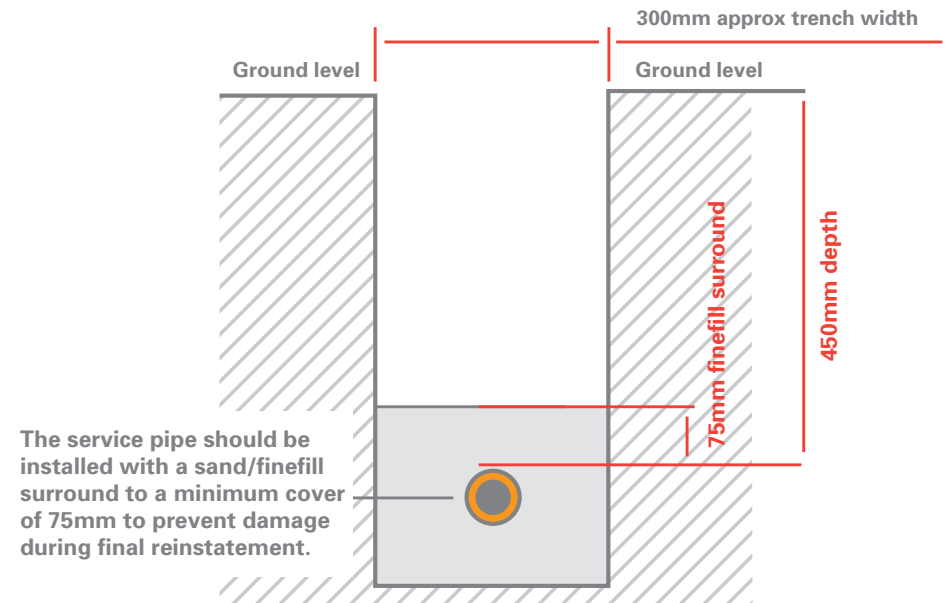

Figure 1 - Reinstatement of service pipe
- The service pipe must be laid with the minimum depths of cover with a sand/finefill surround of 75mm to prevent damage during final reinstatement as shown in Figure 1.